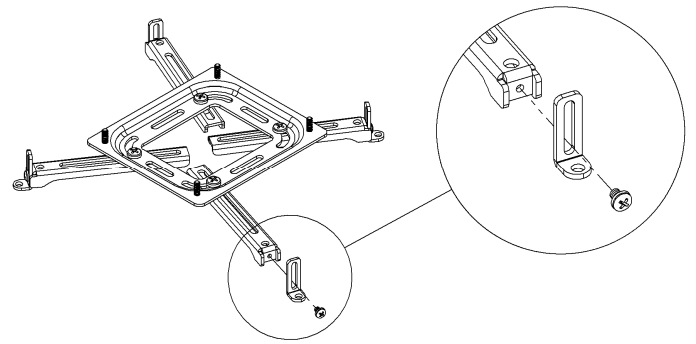

Figure 11. Remove Feet (SLBO Shown)
2. Using a Phillips screwdriver, remove foot bracket screws and foot brackets (see Figure 11).